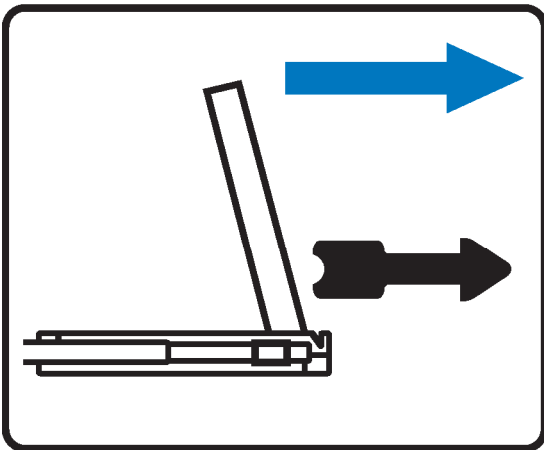

Figure 15.
- Pull and hold the black arrow button on either side of the LCD drawer to unlock. (shown in Figure 15).